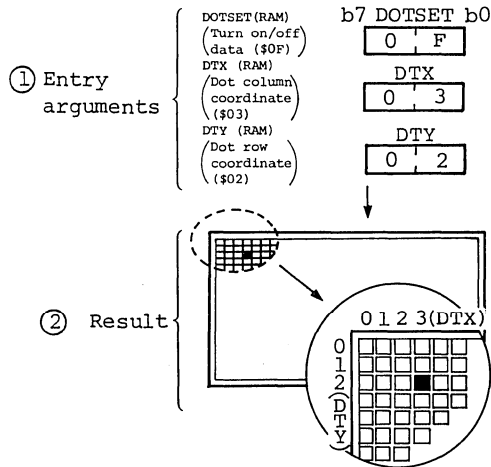

Figure 1-6. Example of L2HDST Execution
- b. Example of L2HDST execution is shown in figure 1-6. If entry arguments are as shown in part ① of figure 1-6, 1 dot is displayed as shown in part ② of figure 1-6.